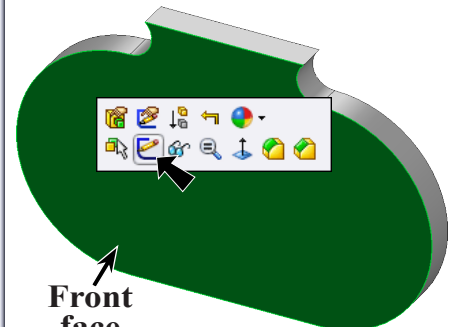
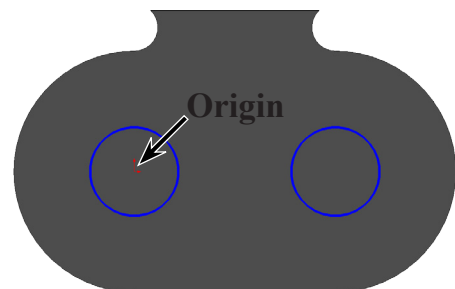

Fig. 10
Fig. 11
click OK , **Fig. 10**.
Step 1. Click the **front face** and click **Sketch**  on the Content menu, **Fig. 10**.
Step 3. Click **Circle**  (S) on the Sketch toolbar.
Step 4. **Draw two circles** for the clips, **Fig. 11**. Start the first circle at the origin. Align the second circle with the first. As a guide use the inferencing line, the dotted line that appears when you draw.